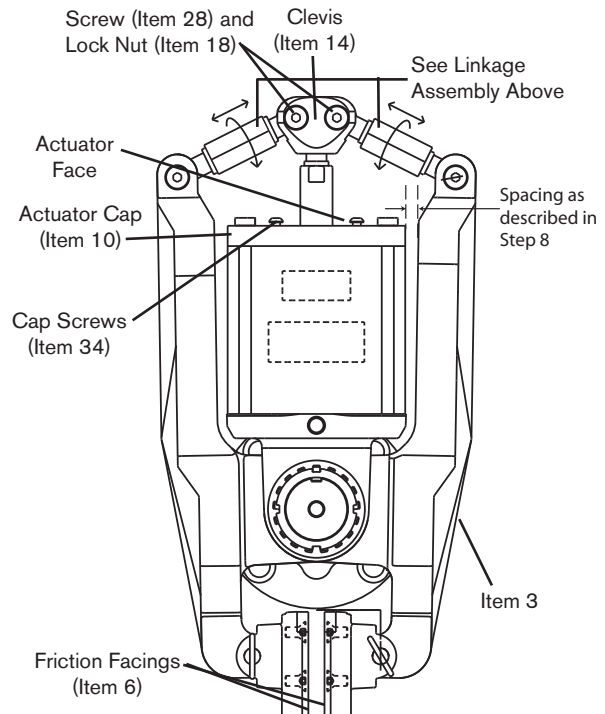

Figure 5
2. Remove the brake guard by removing cap screws (Item 34) (See Figure 5).